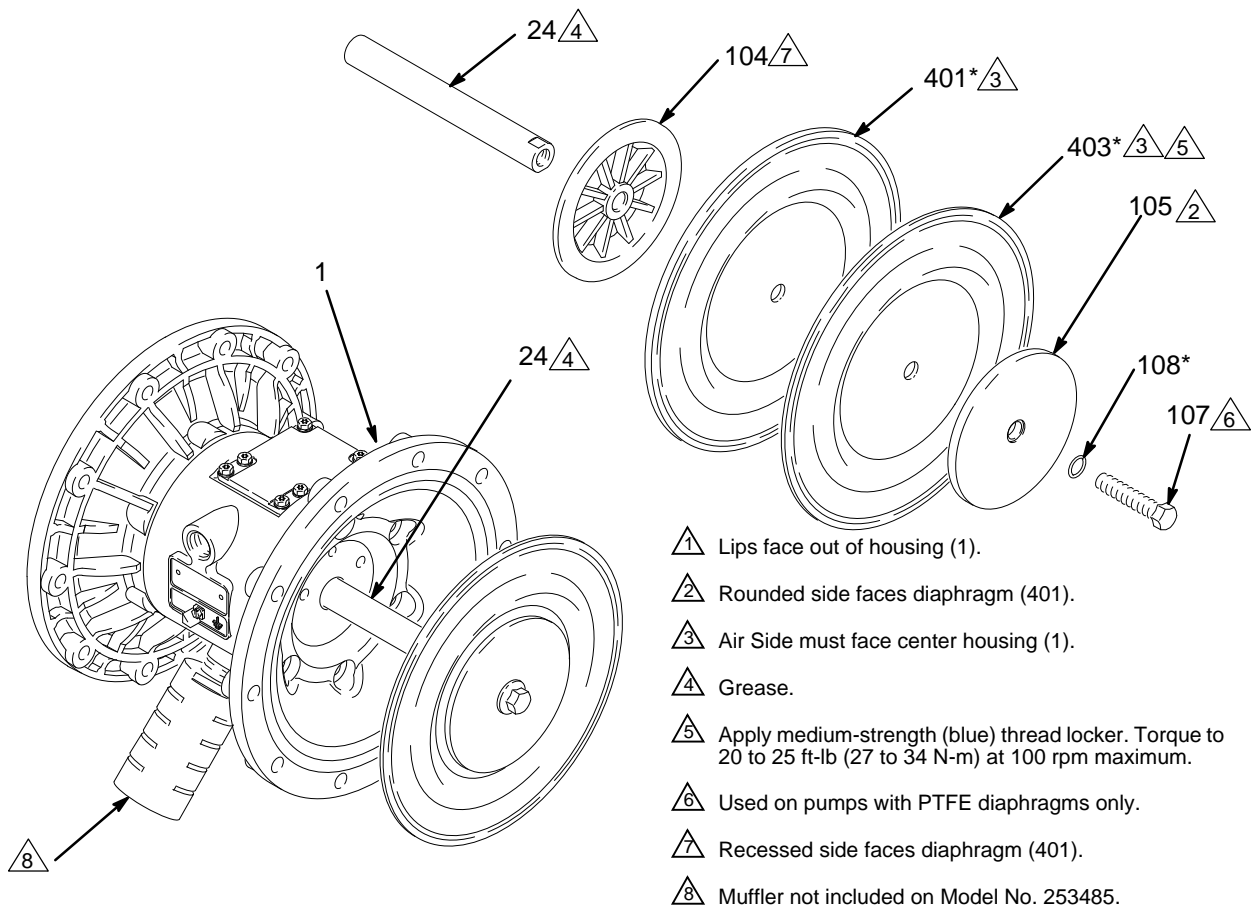

FIG. 12
4. Loosen but do not remove the diaphragm shaft bolts (107), using a 15 mm socket wrench (1 in. on stainless steel models) on both bolts. *NOTE: This step does not apply to pumps with overmolded diaphragms.*
5. Unscrew one bolt from the diaphragm shaft (24) and remove the o-ring (108), fluid side diaphragm plate (105), PTFE diaphragm (403, *used on PTFE models only*), diaphragm (401), and air side diaphragm plate (104). See FIG. 12.
1. Install the shaft u-cup packings (402*) so the lips face **out** of the housing (1). Lubricate the packings. See FIG. 12.
2. Install the diaphragm assembly on one end of the shaft (24) as follows. *For pumps with overmolded diaphragms, go directly to step g.*
6. Remove the air cover gaskets (22). Always replace the gaskets with new ones.
7. Use a bearing puller to remove the diaphragm shaft bearings (19), air valve bearings (12) or pilot pin bearings (15). Do not remove undamaged bearings.
8. If you removed the diaphragm shaft bearings (19), reach into the center housing (1) with an o-ring pick
and hook the u-cup packings (402), then pull them out of the housing. Inspect the packings. See FIG. 12.